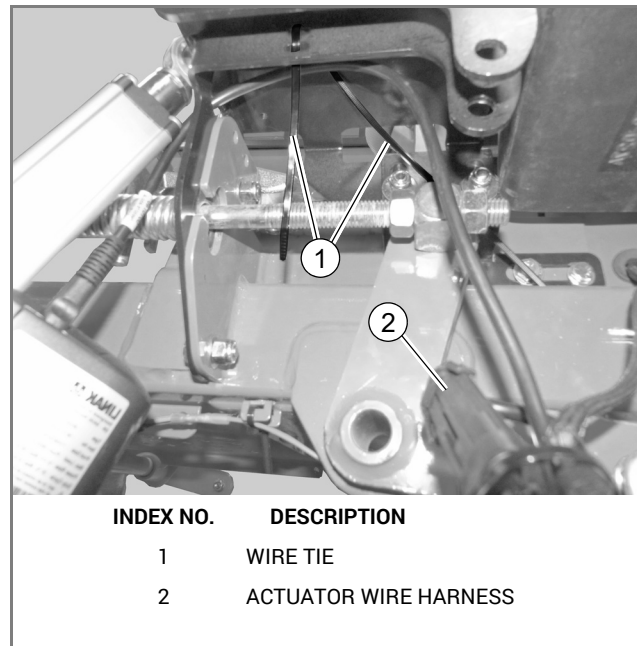

FIG. 19
37. Coil the excess wire and secure it using the provided wire ties as needed. FIG. 19